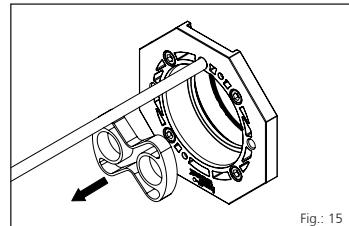

Fig.: 15
In the case of wall thicknesses > 600 mm it is not necessary to continue the wall thickness. In this case the positioning of the shield differs from the cross-section image (Fig. 15 and Fig. 17), namely in the drill hole and not in front of the wall).
- 7** Then remove the spacer clamp (see Fig. 15).